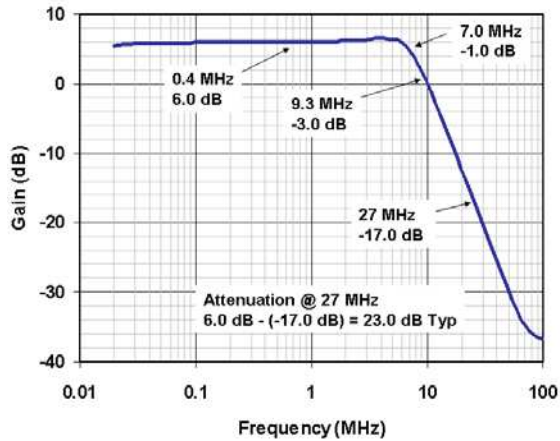

Figure 2. Frequency Response
- 9. The normalized gain is guaranteed by design and characterization. The max normalized gain of +0.8 dB is the result of smooth peaking (pre-emphasis, see figure 2) taking into account the increase of the losses at the highest frequencies into connectors and cable at the output. For frequencies lower than 2 MHz the max normalized gain is 0.4 dB.